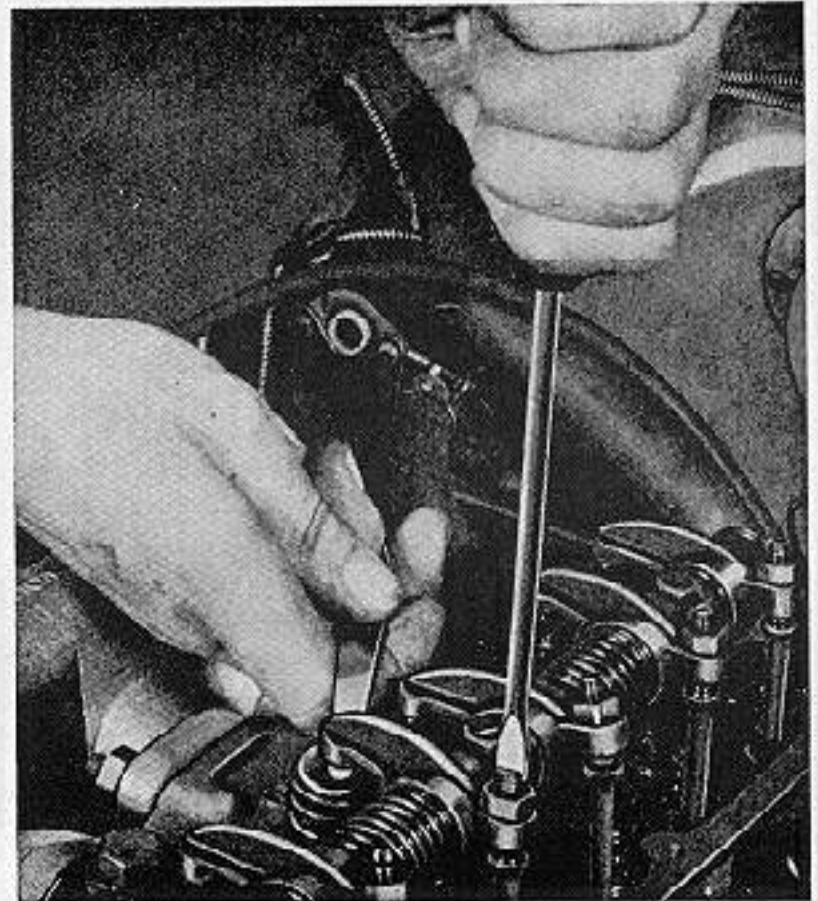

Fig. 28. Adjusting the valve clearance
5. Run the car for a short distance. Check that the engine is running well and adjust the valve clearances. See Fig. 28.